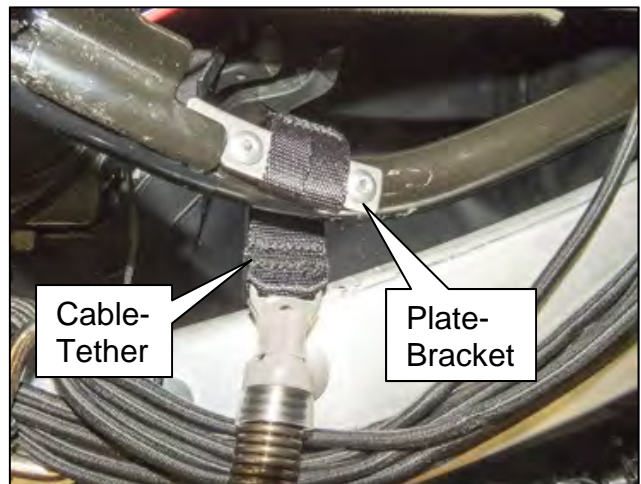

Figure 105
113. Attach the Plate-Bracket/Cable-Tether assembly to the 5th Bow linkage with two (2) pop rivets, as shown in Figure 105.
114. Temporarily route the cable-tether (Figure 105).